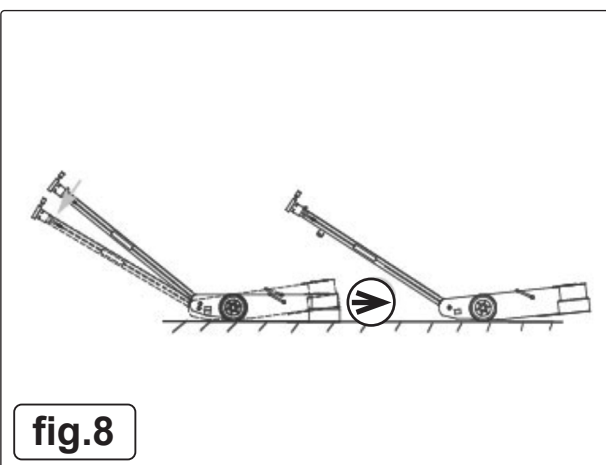

fig.8
- 6.1.1. To move the jack, set the handle to the second position. Push down on the handle to lift the front of the jack off the ground. This allows for easy transport without the jack contacting or grounding on the surface (see Fig. 8).